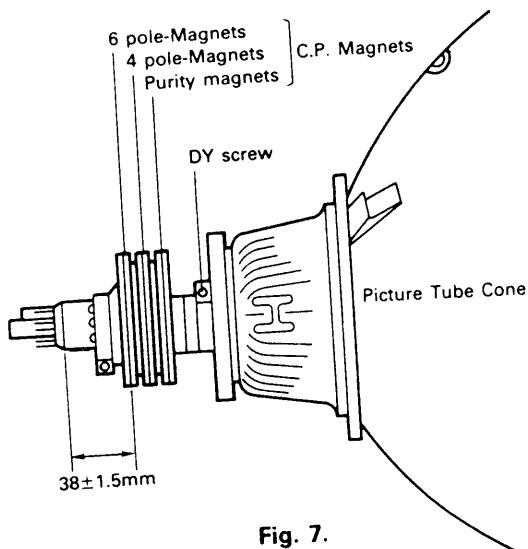

Fig. 7.
- (1) Remove the deflection yoke and the rubber wedges from the picture tube cone taking care not to strike or scratch the cone.
- (2) Clean the cement remaining on the deflection yoke and the surface of the picture tube cone.
- (3) Tune receiver into a cross-hatch signal.
- (4) Fit the deflection yoke on the neck of picture tube and push forward.
- (5) Fit C.P. (Magnet) Assembly to the neck of the picture tube and fasten with the screw at the position where the distance between 6-pole magnet end and the base of picture tube is as shown in Fig. 7.
- (6) Demagnetise at the front and sides of the picture tube with a degaussing coil.